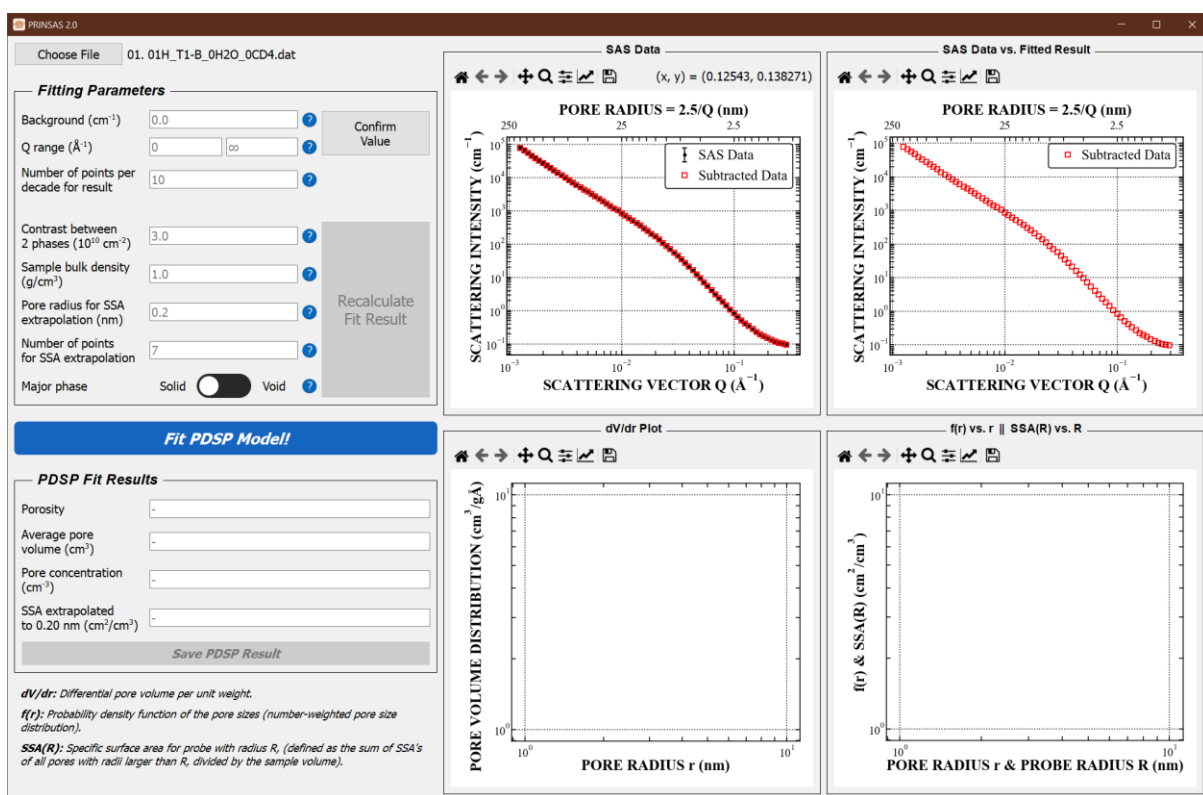

Figure 3.2. Interface after loading a scattering data file.
- (iii) Once loaded (**Figure 3.2**):
- **Background ( $\text{cm}^{-1}$ )**: is the flat background value to be subtracted from the original SAS profile prior to the analysis. The background value is determined such that the scattering profile forms a straight, continuous line in the large- $Q$  region after subtraction (*Radlinski et al., 2004*). To find the appropriate background value, hover the cursor over the desired level on the *SAS Data* plot; live cursor coordinates will be displayed in the top right of the plot (as shown in **Figure 3.2**). The background scattering intensity (y-coordinate) can then be entered into the text box next to the **Background ( $\text{cm}^{-1}$ )** label, followed by pressing the **Confirm Background** button. This updates the *SAS Data* and *SAS Data vs. Fitted Result* panels with the newly background-subtracted SAS data (**Figure 4.1**).